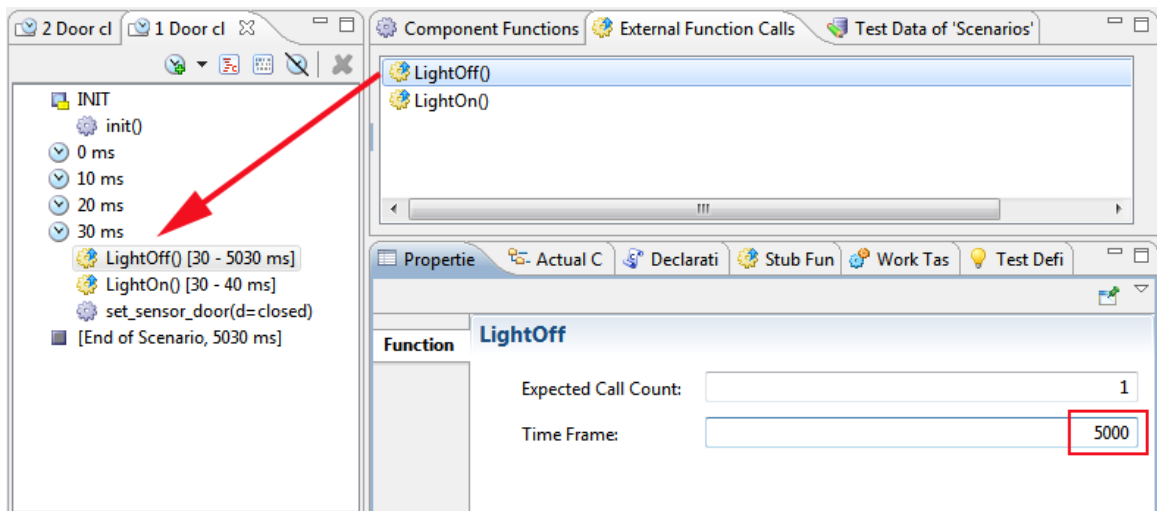

Figure 5.89: Setting the call “LightOff” and extending the time frame
- Drag `LightOff()` to 30 ms and extend the time frame by 5000 ms (see figure 5.89).